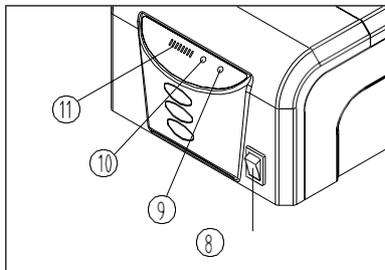

Fig 15
(2) Turn on the switch ③ for power supplying. When it is in normal condition, the color of light Indicator ⑨ is “green”. The light indicator ⑩ color changes to “saffron”(The light indicator ⑩ color becomes “green” with full of electric), At the same time, the last grid of light bar indicator ① color is “red”, others are “green”. When the battery is low, light indicator ⑨ color becomes “orange”, light indicator ⑩ is “orange”. At the same time, light bar indicator ① left only the last grid is “red”. (See Fig.15)